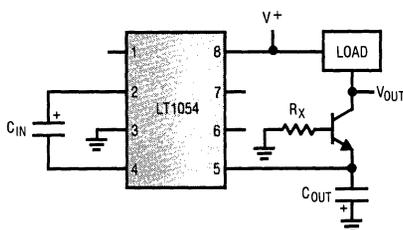

Figure 3
**VOUT (Pin 5):** In addition to being the output pin, the pin is also tied to the substrate of the device. **Special care must be taken in LT1054 circuits to avoid pulling this pin positive with respect to any of the other pins.** For circuits with the output load connected from V+ (Pin 8) to VOUT (Pin 5), or from some external positive supply to VOUT (Pin 5), an external transistor must be added as shown in Figure 3. This will prevent VOUT (Pin 5) from being pulled above the ground pin (Pin 3) during start-up. Any small, general purpose transistor such as 2N2222 or 2N2219 can be used. RX should be chosen to provide enough base drive to the external transistor, so that it is saturated under nominal output voltage and maximum output current conditions.